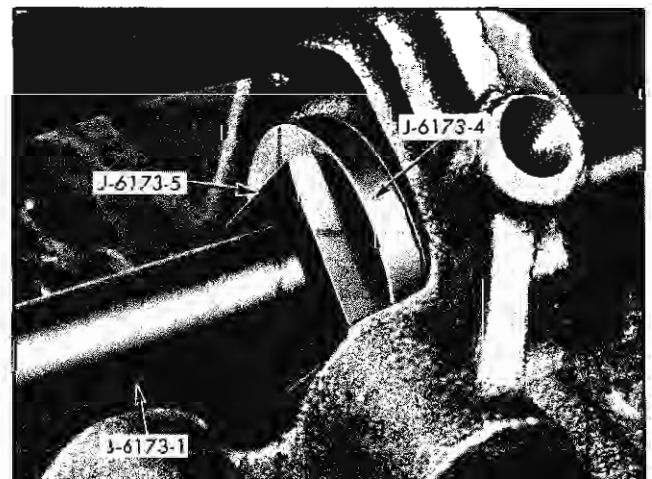

Fig. 6-45 Tools Positioned for Bearing Removal
5. Slip Key J-6173-5 into notches in shaft behind bearing to be removed (Fig. 6-45).